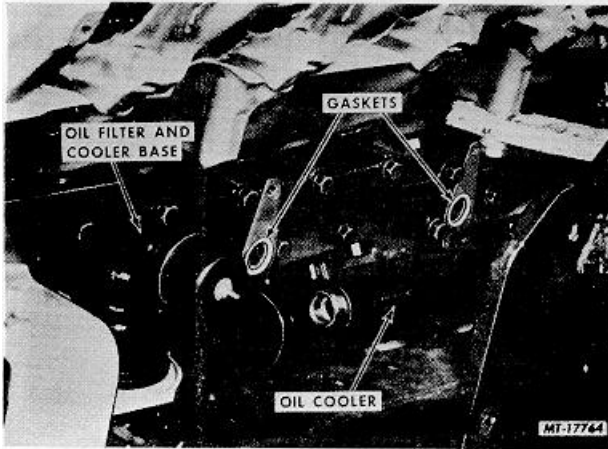

Fig. 21 Removing Oil Cooler
7. Remove capscrews and remove oil cooler and "O" ring gaskets from oil filter base (Figure 21).